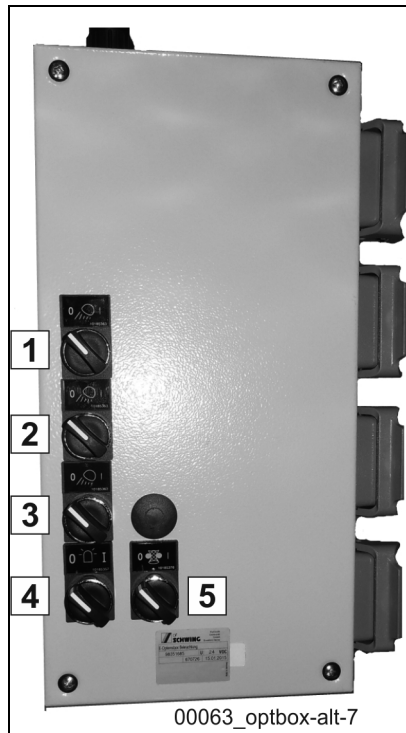
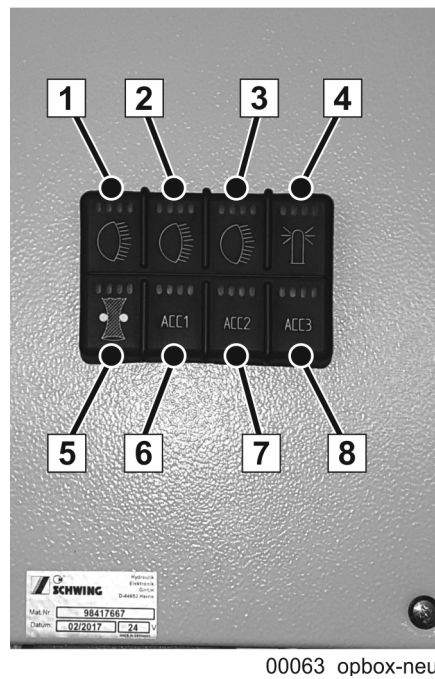

Fig. 442 E-option box on a truck-mounted concrete pump
Fig. 444 E-option box (new) on a truck-mounted concrete pump
0 The selector switch (5) (**Fig. 442**) (**Fig. 444**) is located in a separate housing next to the switch cabinet with the machine controls.